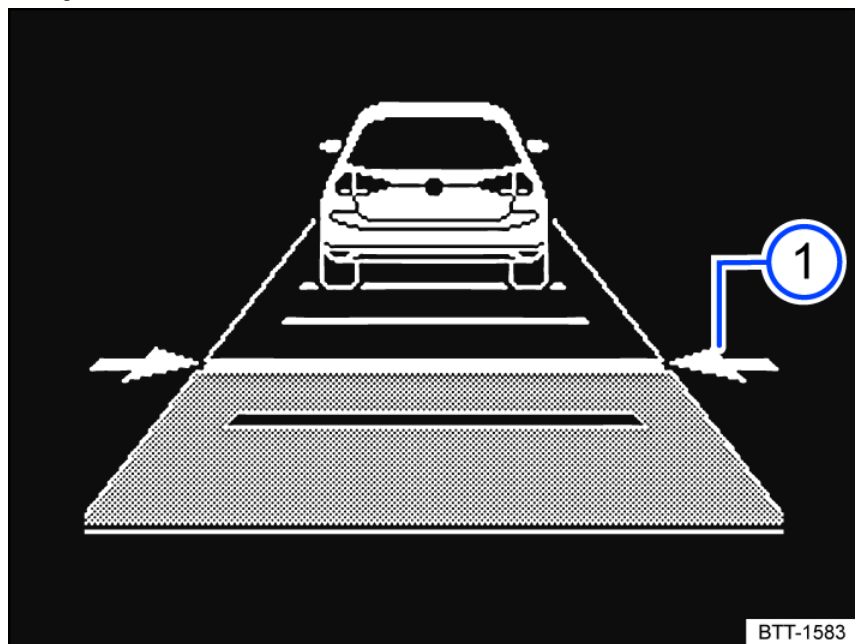

Fig. 115 In the instrument cluster display: set distance ① (general example, ACC is regulating).
The instrument cluster display shows the selected level fig. 115 ①. Heed the country-specific regulations for minimum distance.